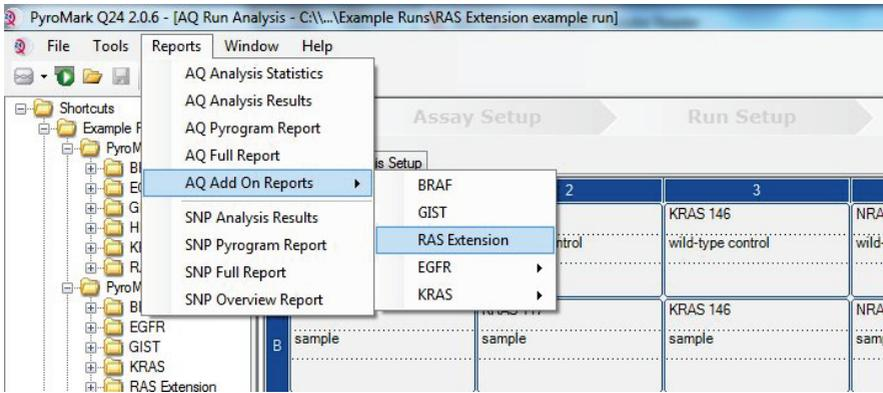

Figure 6. RAS Extension Plug-In Report menu.
5. Using the RAS Extension Plug-In Report to generate a Plug-in report, select "AQ Add On Reports/RAS Extension" from "Reports" in the menu (Figure 6).